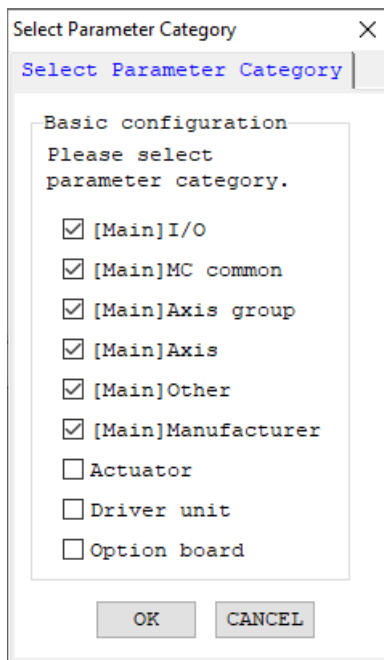

Fig. 8.6 Select Parameter Category Window
- (1) Select "Open" from the "File menu" or click corresponding in the toolbar. In the file selection dialog box, select the parameter file (extension: .xpm) you want to transfer to the controller. Load the file into the PC software and open the parameter edit window.
- (2) Click Transfer to Controller in the parameter edit window.
- (3) The Select Parameter Category window (Fig. 8.6) will be displayed.